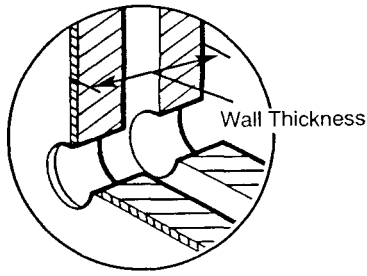

Fig. 62
3. Measure the wall thickness and from this dimension subtract 10mm (³/₈ in) (Fig. 62).